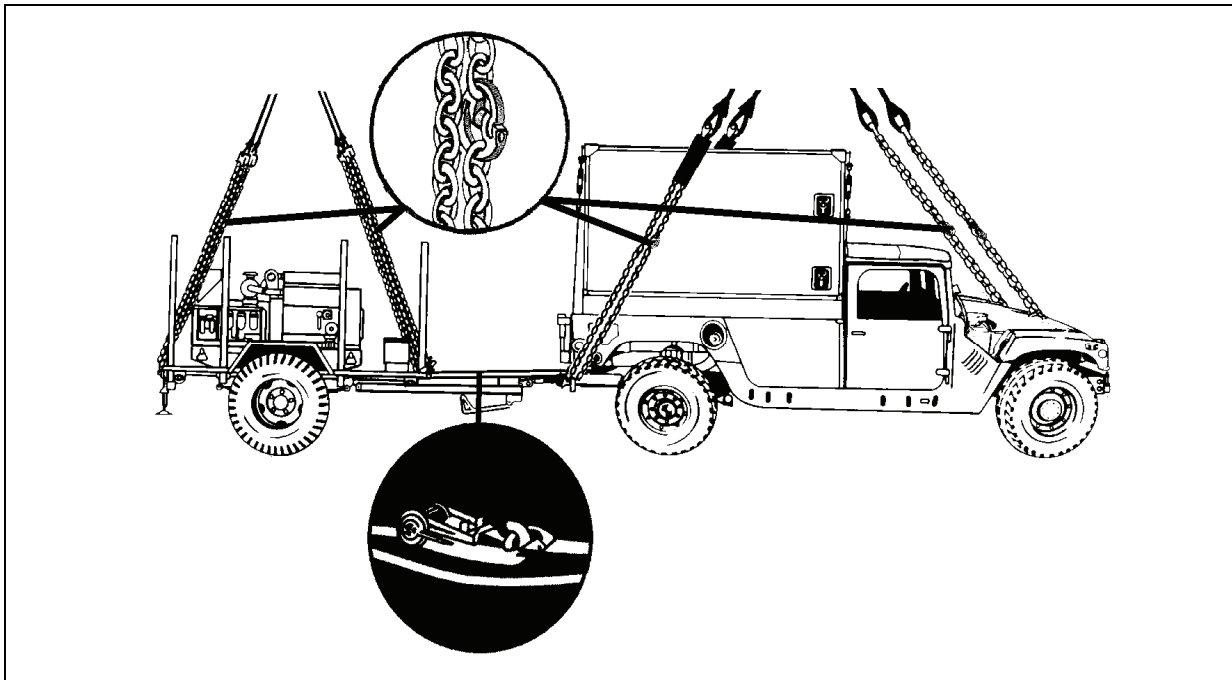

Figure 5-3. M1037 Shelter Carrier with S250/S-250E Shelter and M116A2 Trailer Mounted Generators
- **Rigging.** Rig the load according to the steps in Figure 5-3.